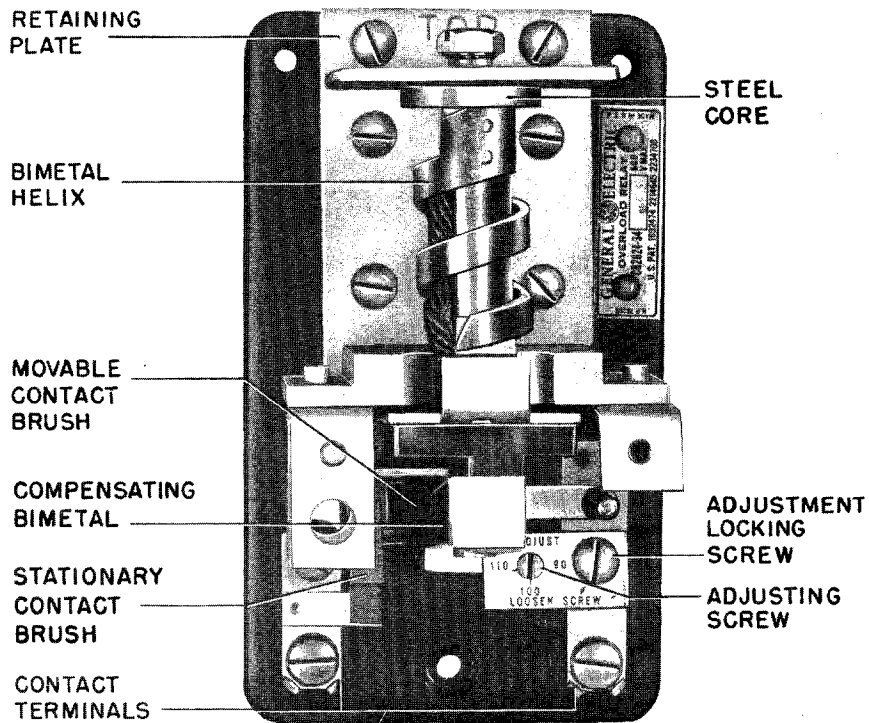

Fig. 2 (8007955) Thermal Unit With Current Coil and Reset Rod Removed
Upon leaving the factory, the relay is set for the 100 percent calibration. If it is desired to adjust the relay to trip at a slightly higher or lower value of current, loosen the adjustment locking screw (see Figure 2). Then the adjusting screw can be turned to provide the desired adjustment. Be sure to tighten the adjustment locking screw.
2. Loosen the three mounting screws and remove the retaining plate (see Figure 2).